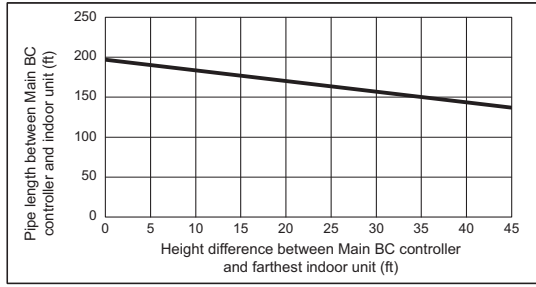

Fig. 2
*2. Details refer to Fig. 2.
*9. When the piping length or the vertical separation exceeds the limit specified in Fig. 2, connect a sub BC to the system.
When using indoor models P54 or larger, the restrictions shown in Fig. 2 cannot be exceeded.
The restriction for a system with a sub BC connection is shown in Fig. 3. When a given system configuration falls within the shaded area in Fig. 3, increase the size of the high-pressure pipe and the liquid pipe between the main BC and sub BC by one size. The maximum liquid branch pipe diameter is $\phi 19.05$. If a given system already has a $\phi 19.05$ -pipe between the main BC and sub BC, there is no need to increase the pipe size. When using P12, P15, P18, P36, or P48 model of indoor units, increase the size of the liquid branch pipe between the sub BC and indoor unit by one size. When using indoor models P54 or larger, the restrictions shown in Fig. 2 cannot be exceeded.